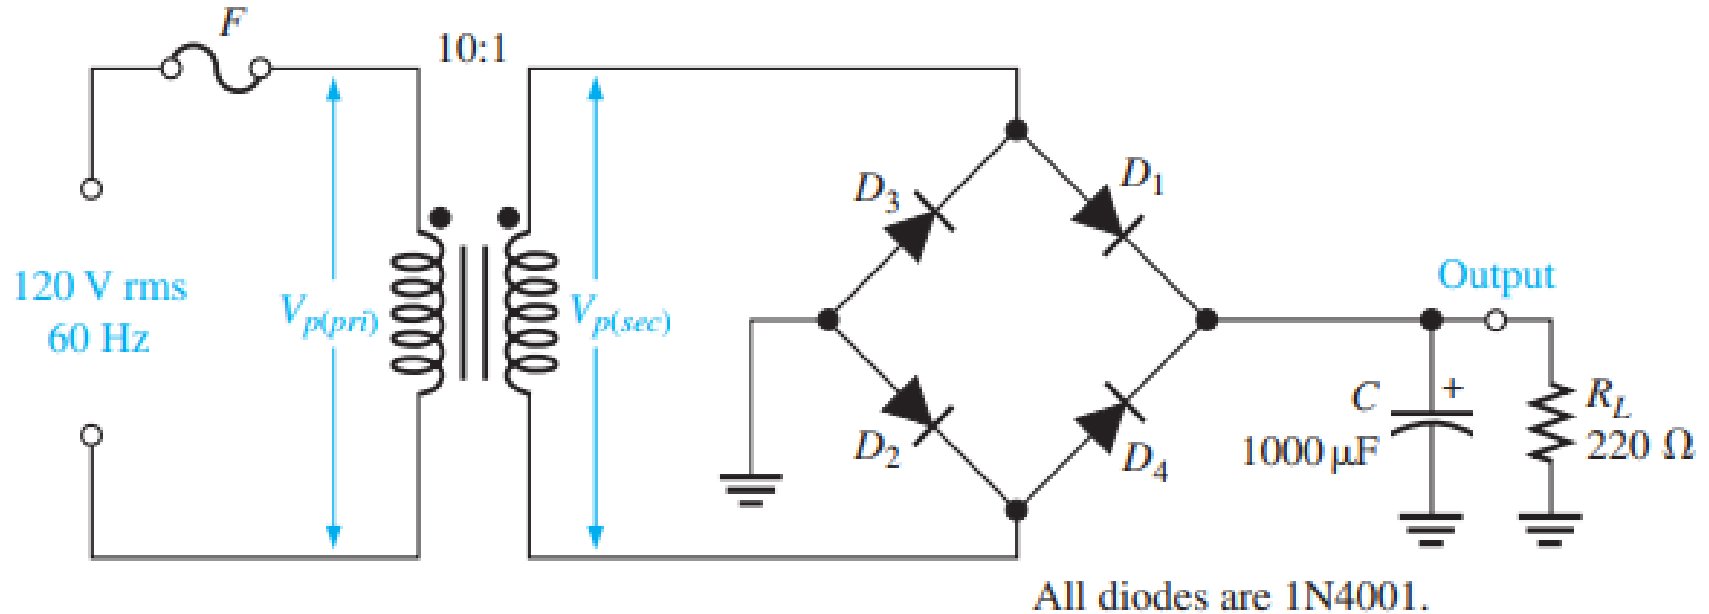

Fig 2.48 — Filtered bridge rectifier for Example 2–48.
- Determine the ripple factor for the filtered bridge rectifier with a load as indicated in Figure 2-48.